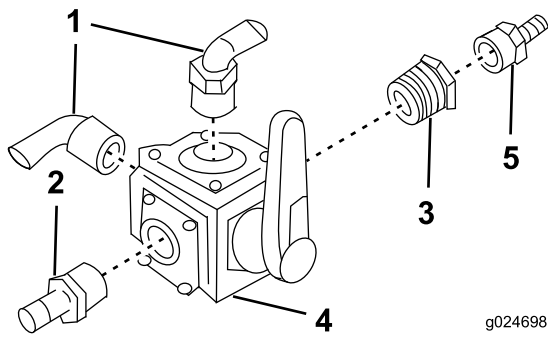

Figure 21
1. If there are no barbed fittings connected to the 4-way valve, install them as shown in Figure 21.
Note: The orientation of the fittings is important. Position the fittings as shown in Figure 21.
2. Insert 4 bolts and 4 washers into the slots of the 4-way valve (Figure 21).